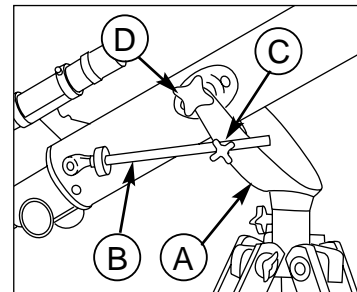

Fig. 2 Mounting the optical tube assembly: (A) azimuth mount; (B) altitude rod; (C) altitude coarse adjustment control; (D) vertical lock knob.
5. Remove the two vertical lock knobs (**D, Fig. 2**) from the optical tube assembly.
6. Place the optical tube between the forks of the azimuth mount (**A, Fig. 2**), oriented as shown in **Fig. 2**.
7. Slide the altitude rod (**B, Fig. 2**) into the hole in the altitude coarse adjustment control assembly (**C, Fig. 2**). Tighten to a firm feel.
8. Thread a vertical lock knob (**D, Fig. 2**) through each of the holes in the forks of the azimuth mount (**A, Fig. 2**) and tighten to a firm feel.